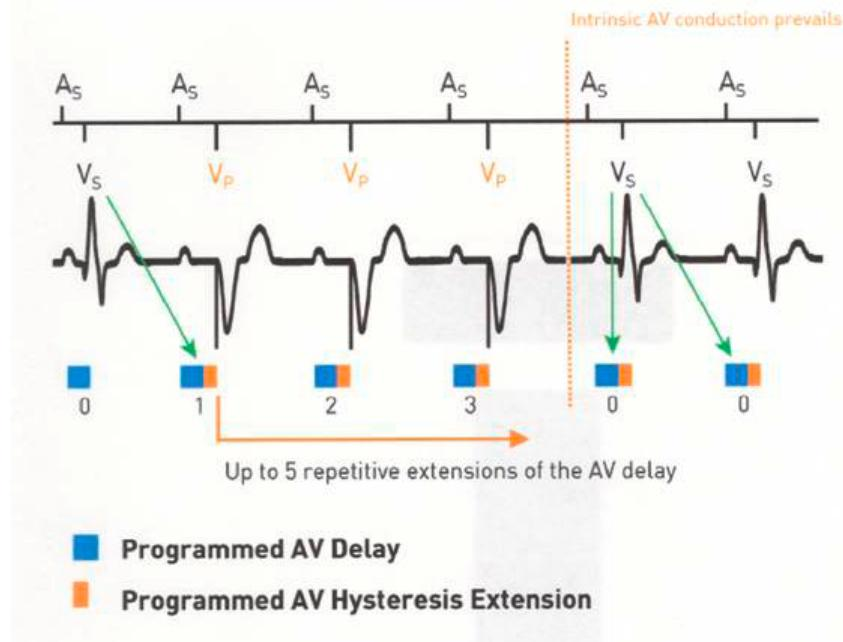

Figure 109: Repetitive Hysteresis
During a Repetitive Sequence (refer to Figure 109):
- Each Vs event will reset the repetitive counter and initiate the extended AV delay (see green arrow in Figure 109).